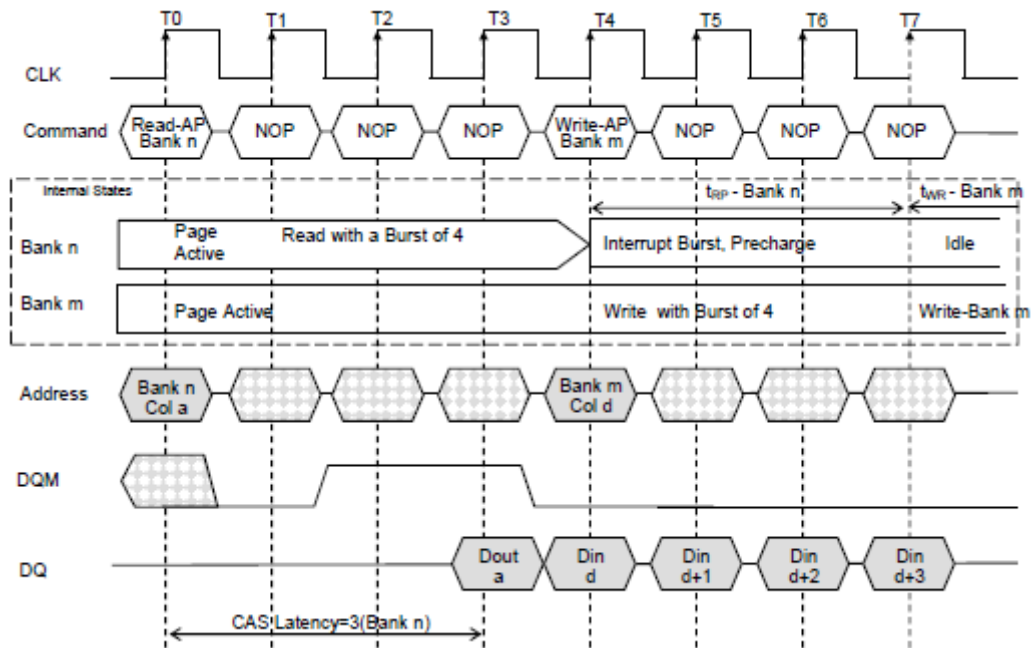

Figure 26. Read With Auto Precharge Interrupted by a Write(Read CAS Latency =3)
2. Interrupted by a Write(with or without auto precharge): A Write to bank m will interrupt a Read on bank n when registered. DQM should be used two clocks prior to the Write command to prevent bus contention. The Precharge to bank n will begin when the write to bank m is registered. (Figure 26. ) Write with Auto Precharge